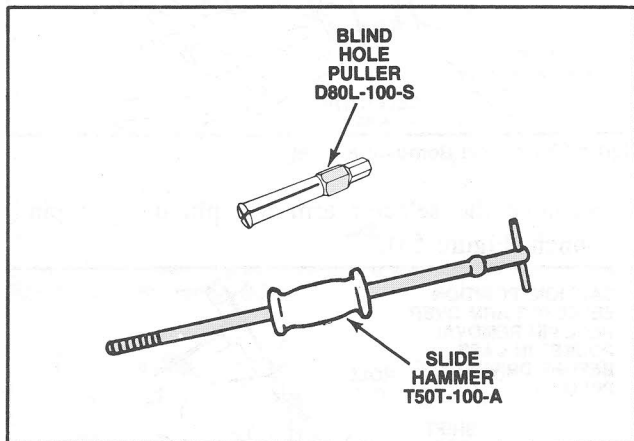

Figure 56 Input Shaft Seal Removal Tools
- Input Shaft Seal (Figure 56).